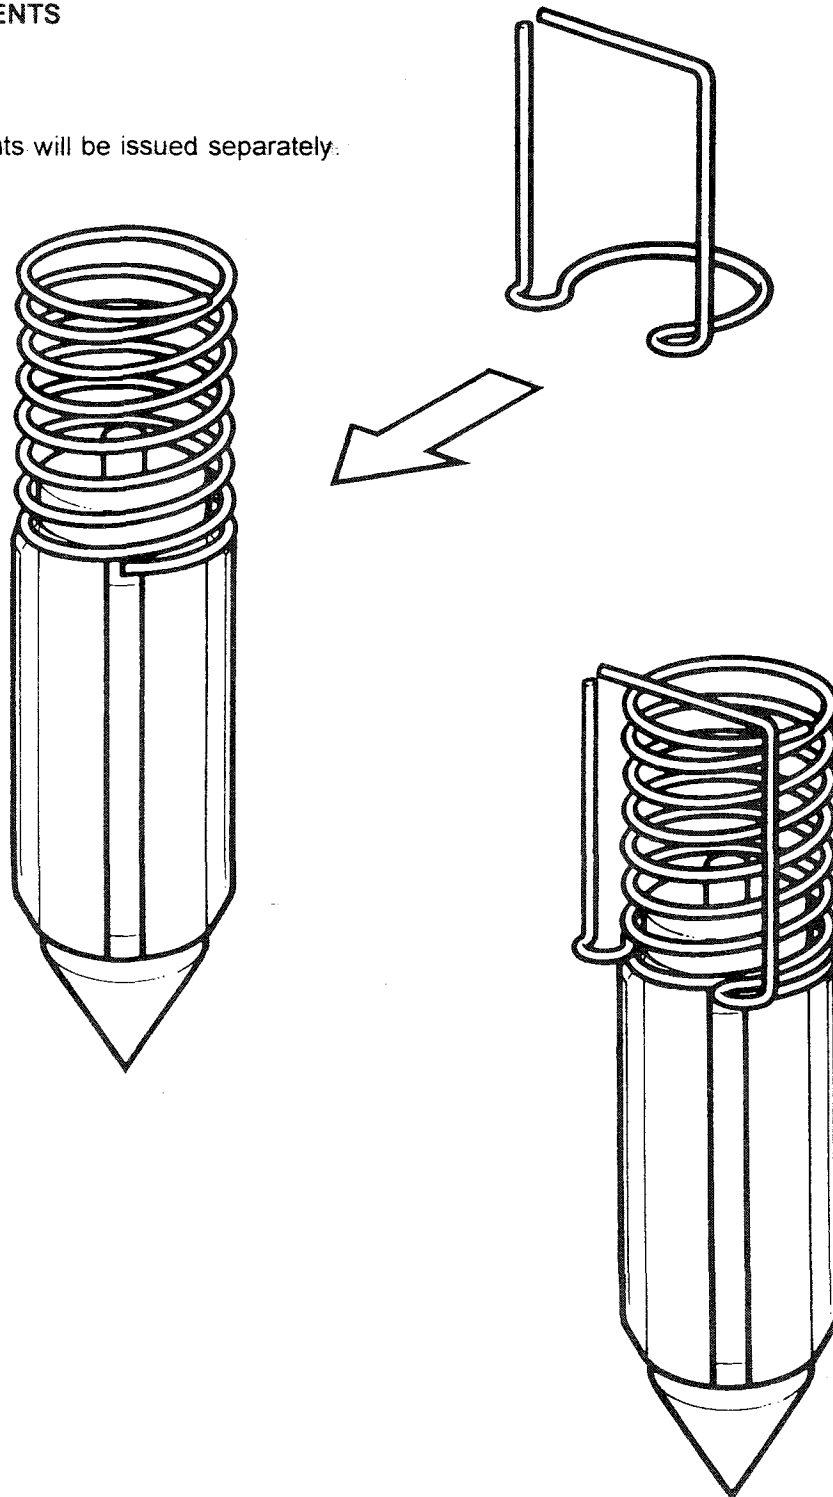

Fig 1 Wire retainer clip and modification spring mounting on needle valve
9.11 Invert the needle valve and place the modification spring (item 1) on the top. Refit the wire retainer clip passing through the first coil of the spring, in accordance with Fig 1. The other end of the spring should be inside the wire retainer. Refit the float by passing the tab between the wire retainer and the spring.